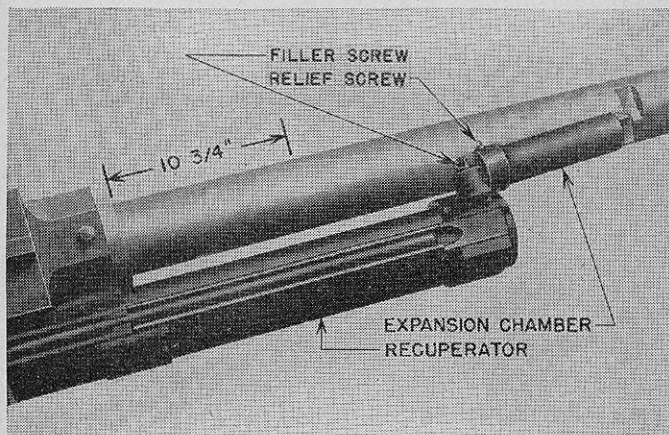

FIGURE 12.—Recuperator and filler plug.
■ **30. RECOIL SYSTEM.**—*a.* The length of recoil of the 37-mm gun is very critical. The normal length of recoil of the gun is $10\frac{3}{4}$ inches (fig. 12). Before firing, the recuperator is checked to insure that it is filled with oil. The distance of recoil is also checked after the gun is fired.